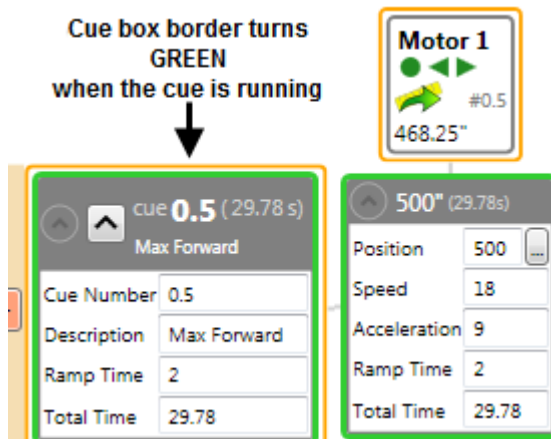

Figure 49
- As the cue is running, the border around the cue box in the **Cue Grid** turns green (Figure 49).